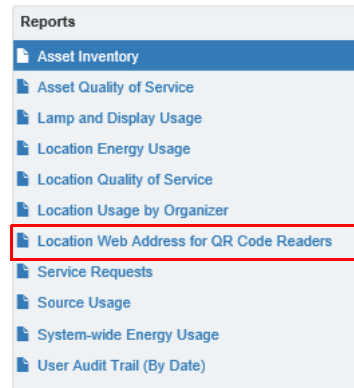

FIG. 359 Report Manager menu (Scheduling Event Reports > Location Web Address...)
2. In the *Reports* page, select **Location Web Address for QR Code Readers** (FIG. 359):